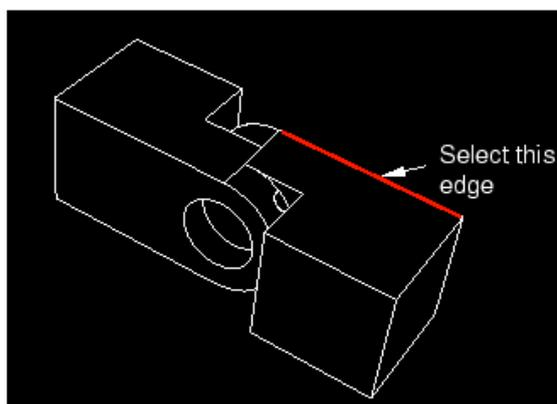

Figure C-30 Select a straight edge on the movable instance.
12. Select the straight edge on the solid hinge piece shown in Figure C-30.